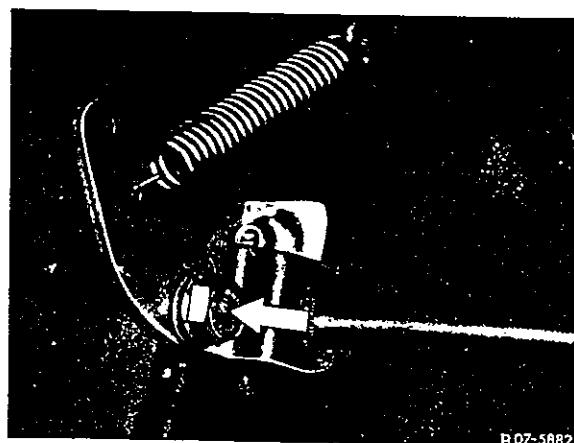

Fig. 3
Adjustments are made by loosening the clamping bolt (refer to arrow) on the retracting lever of the accelerator pedal shaft and turning of accelerator pedal. Then tighten clamping bolt again. (Fig. 3).
If necessary, after releasing the lock nut adjust the kickdown switch by turning it in or out of the cover plate in the steering column jacket. If the range of adjustment of the kickdown switch is not sufficient, adjust the control shaft (6) after loosening the hexagon screw (7) (Figure 3).